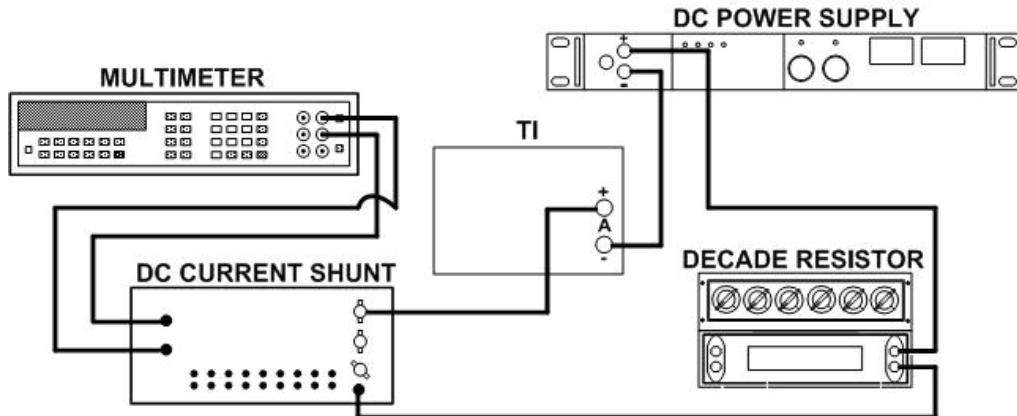

Figure 2. Millampere measurement - equipment setup.
- (1) Connect equipment as shown in figure 2.